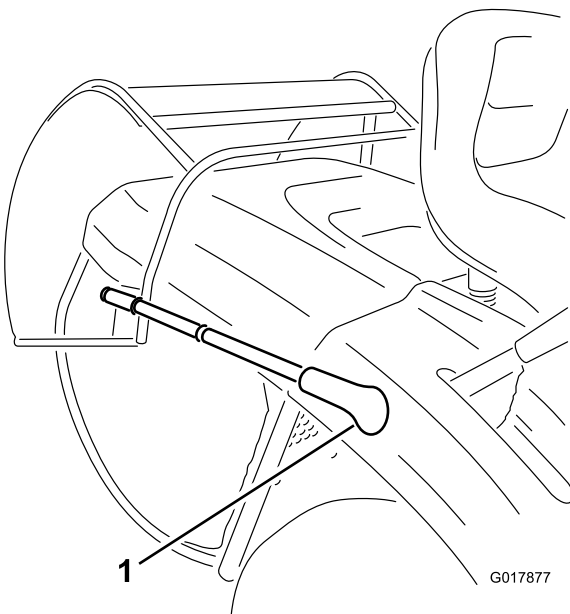
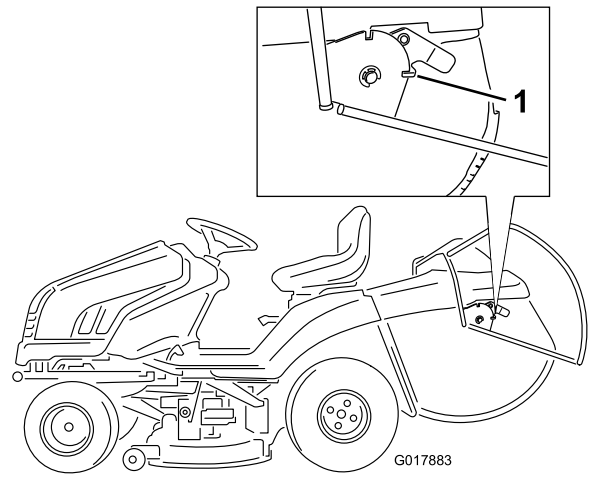

Figure 17
Figure 18
3. Pull the grass collector dump lever forward and tilt the grass collector (Figure 17) until the locking latch engages to lock the grass collector in the open position (Figure 18).